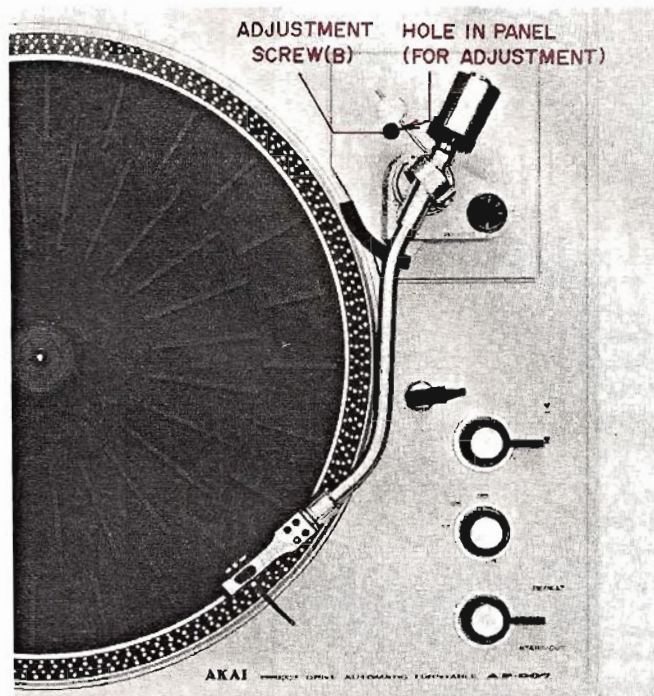

Fig. 12 Lead-out Position Adjustment
Remove the rubber cap from the tone arm stand. With the tone arm positioned slightly apart from the tone arm rest as shown in Fig. 12, the adjustment screw (B) appears in the hole from which the rubber cap has been removed. Turning the adjustment screw (B) clockwise and counterclockwise permits the lead-out position to shift towards the outer rim of the record and towards the center of the record respectively.